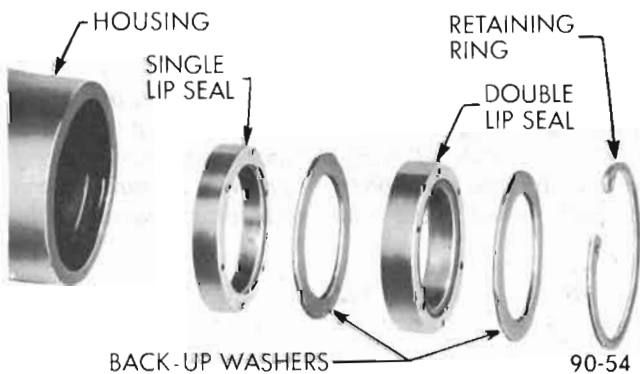

Figure 90-54 Pitman Shaft Seals
2. Lubricate new pitman shaft seals with power steering oil. Install the inner, single lip seal in bore first, then a back-up washer. See Figure 90-54. Using tool J-6219, drive the seal and washer in far enough to provide clearance for the outer seal, back-up washer and retaining ring. See Figure 90-55. *The inner seal must not bottom on the counterbore.* Install the outer double lip seal and the second back-up washer in bore only far enough to provide clearance for the retaining ring with tool J-6219. Install retaining ring with No. 3 Truarc pliers tool J-4245, making certain that ring is seated properly.